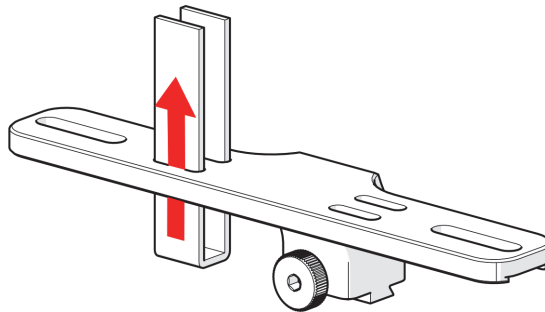

Figure 2-137 Inserting the hook and loop straps
1. Insert the hook and loop straps as shown in Figure 2-137 on page 151.